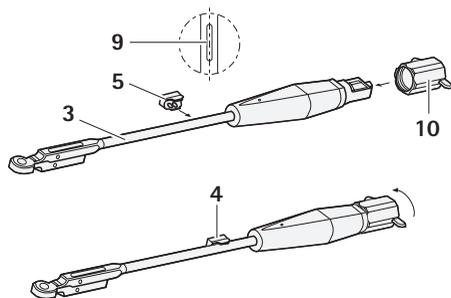

Fig. 12 Assembly
- ▶ Push indicator pin **5** from one side through the drill holes of pushing rod **9**, see Fig. 12.